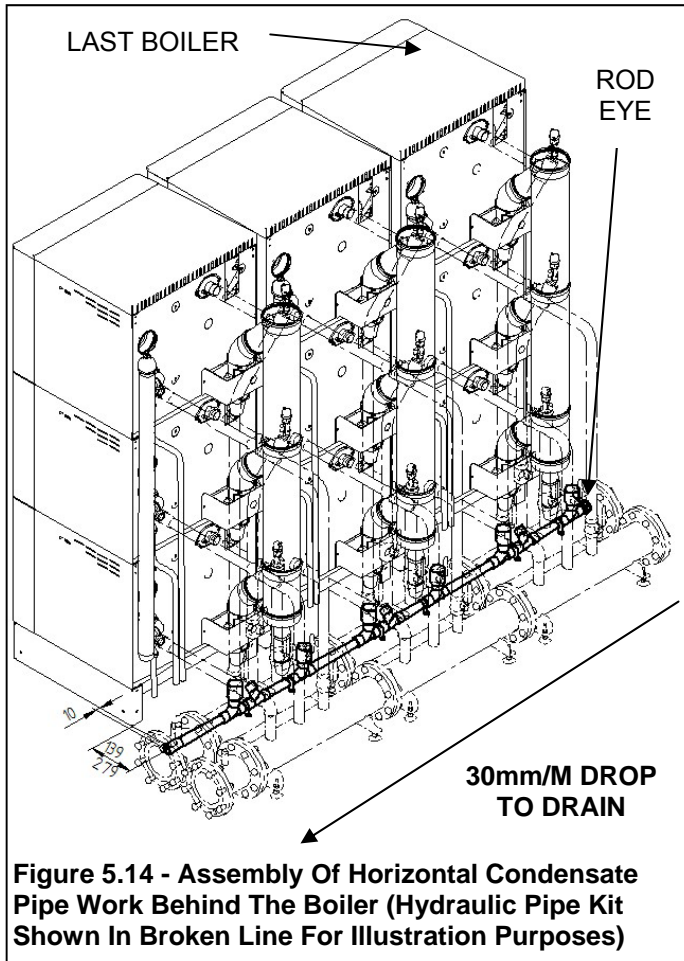

Figure 5.14 - Assembly Of Horizontal Condensate Pipe Work Behind The Boiler (Hydraulic Pipe Kit Shown In Broken Line For Illustration Purposes)
5.28 Fit the preassembled ABS pipe and elbow (see arrow) to condensate trap assembled on the spigot of the vertical flue cascade kit cap as shown in figure 5.14 & if necessary adjust the ABS tubing to fit.